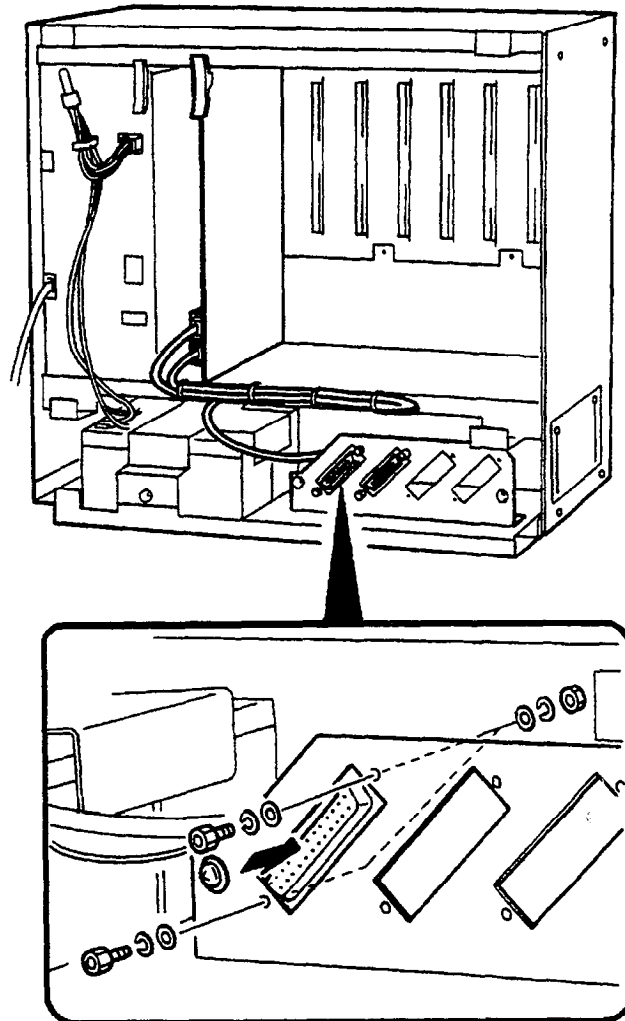
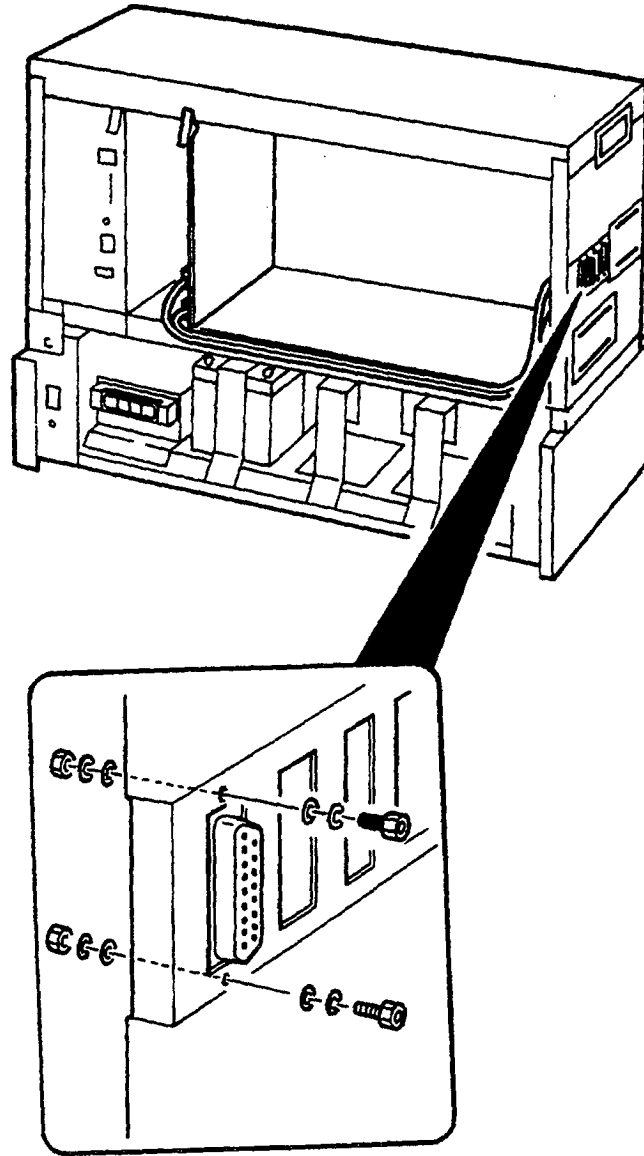

Figure 3-105 Connecting the MIF Cable Assembly and the MIF-F(L)-10 KTU to the ESF-SB-10 KSU
Figure 3-106 Connecting the MIF Cable Assembly and the MIF-F(L)-10 KTU to the ESF-XB-10 KSU
The MIF-F(L)-10 KTU can be installed in an Option Slot (OP) or in one of the four Interface/Option Slots (IF1/OP1 ~ IF4/OP4), in the ESF-SB-10 KSU, ESF-XB-10 KSU, or the first ESF-XE-10 KSU installed. This KTU is shipped with two cable assemblies (MIF cable assembly). One end of each cable has an RJ35 (8-pin) connector. The other end of the cable terminates at an RS-232 connector. This connector must be mounted in the KSU. This same connection procedure must be performed on the ESF-XB-10 KSU or ESF-XE-10 KSUs. Refer to Figure 3-105 - Connecting the MIF Cable Assembly and the MIF-F(L)-10 KTU to the ESF-SB-10 KSU and Figure 3-106 - Connecting the MIF Cable Assembly and the MIF-F(L)-10 KTU to the ESF-XB-10 KSU.
3. Connect the MIF Cable Assembly to CN7 and CN10 on the MIF-F(L)-10 KTU and the KSU. Refer to Figure 3-105 - Connecting the MIF Cable Assembly and the MIF-F(L)-10 KTU to the ESF-SB-10 KSU.